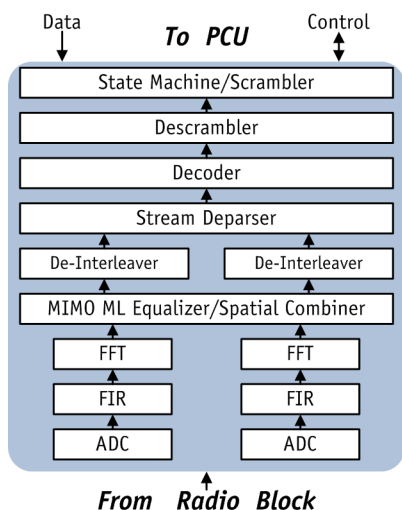

Figure 6-2. Digital PHY 802.11n Rx
Figure 6-2 shows the Rx path digital PHY 802.11n (MIMO mode) block diagram.
The receiver inverts the transmitter's steps, performing a fast Fourier transform (FFT), extracting bits from received constellations, de-interleaving, accounting for puncturing, decoding, and descrambling. The Rx block shows 2x2 MIMO configuration. Figure 6-2 shows a frequency-domain Maximum Likelihood (ML) equalizer handling degradation due to multi-path.